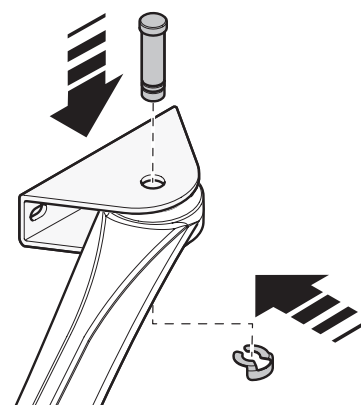

Fig. 10
01. Secure the gear motor arm to the bracket as shown in Fig. 10 using the pin and seger supplied;